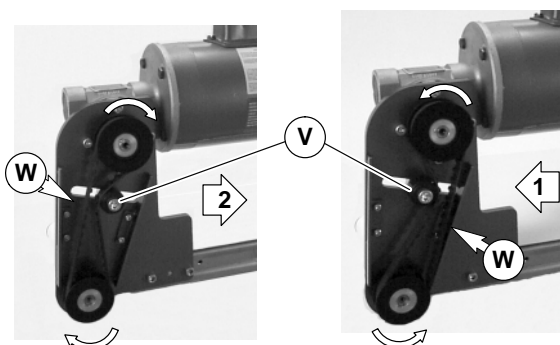

Figure 9
8. Depending on conveyor belt travel (direction 1 or 2), locate timing belt tensioner (V of Figure 9) as shown. Tension timing belt to obtain 0.125" (3 mm) deflection for 1.0 lb (456 grams) of force at timing belt mid-point (W). Tighten tensioner screw to 103 in-lb (12 Nm).
3. Depending on conveyor belt travel (direction 1 or 2), locate timing belt tensioner (V of Figure 9) as shown. Tension timing belt to obtain 0.125" (3 mm) deflection for 1.0 lb (456 grams) of force at timing belt mid-point (W). Tighten tensioner screw to 103 in-lb (12 Nm).
5. Depending on conveyor belt travel (direction 1 or 2), locate timing belt tensioner (V of Figure 9) as shown. Tension timing belt to obtain 0.125" (3 mm) deflection for 1.0 lb (456 grams) of force at timing belt mid-point (W). Tighten tensioner screw to 103 in-lb (12 Nm).